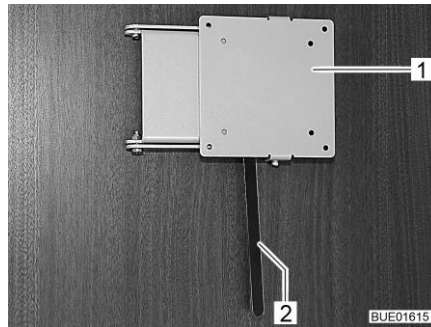

Fig. 91 Holder with release lever
- Push the release lever (Fig. 91,2) to the side and turn the holder (Fig. 91,1) with the flat screen to the desired position.
- Turn flat screen back until the holder (Fig. 91,1) engages in the lock.